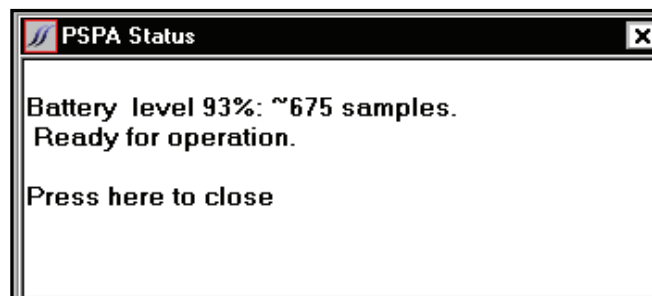

Figure 2. Display in the PSPA Status box.
6. The PSPA Status box will appear; this box displays the remaining percentage of battery life and the approximate number of samples that can be performed on the batteries as shown in Figure 2. Click anywhere inside the PSPA Status box.